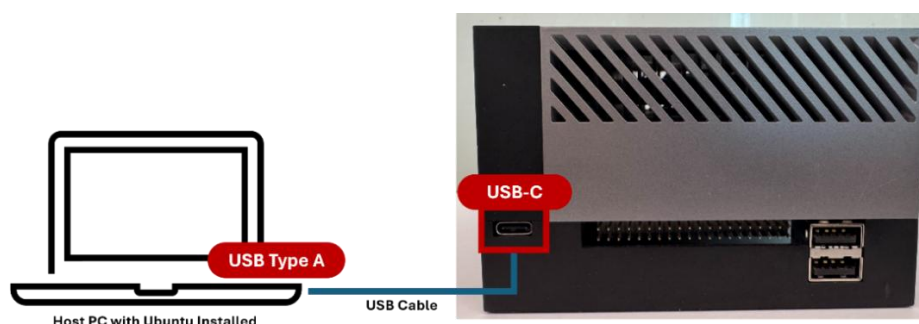

Figure 6.4. Ubuntu Host PC and Jetson AGX Orin Developer Kit Setup
1. Set up an Ubuntu 22.04 host PC with at least 8 GB of RAM and an internet connection. Connect the Ubuntu host to the Jetson AGX Orin using a USB cable as shown in Figure 6.4.
11. Complete **STEP 04 – SUMMARY FINALIZATION** to finish the setup. Reset the Jetson AGX Orin system by pressing the reset button as shown in Figure 6.4. Then proceed to the next section to configure the Jetson AGX Orin itself.